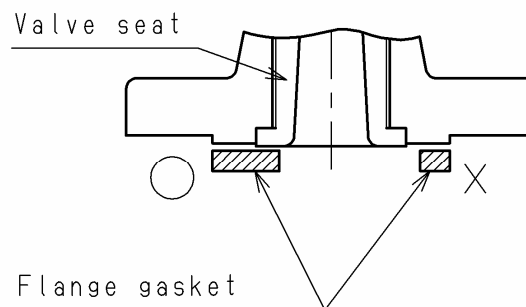

Figure 4 Installation of flange on the inlet
- (1) As the valve seat is screwed on to the flange inlet, there is a difference in level on the flange surface of this product. Upon installation, apply a flange gasket that suits the nominal size and make sure that the gasket seals the valve seat completely (See Figure 4).